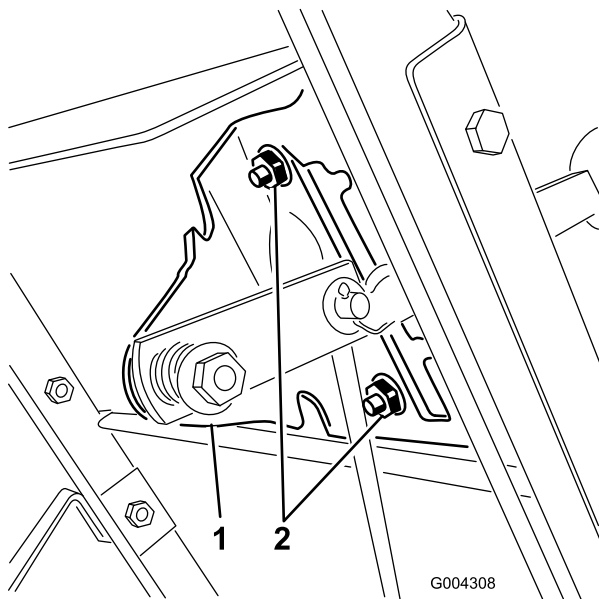
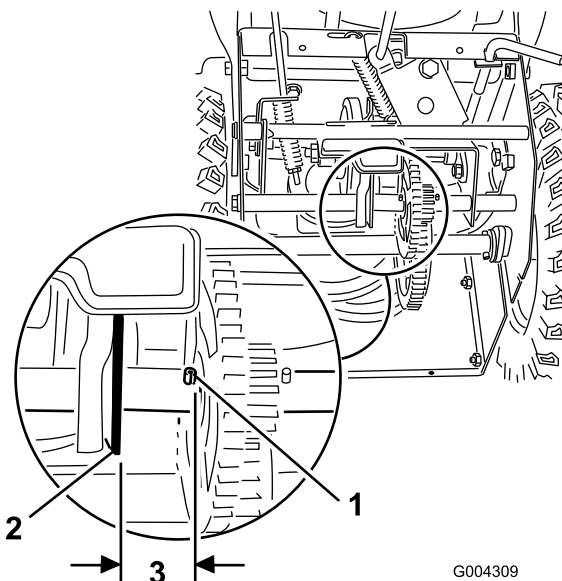

Figure 29
Figure 30
- Loosen the flange nuts that secure the selector plate to the control panel (Figure 29).
Note: The drive assembly should be 1/8 inch (3 mm) from the roll pin; if not, slide the selector plate (Figure 29) until the gap is 1/8 inch (3 mm); refer to Figure 30.